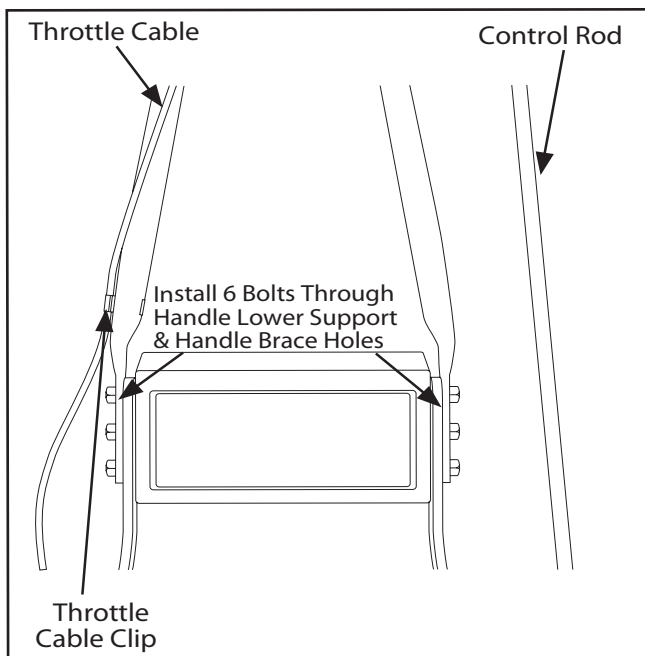

Fig. 1
1. Remove handle brace, nuts, and bolts. Align the handle, lower support, and handle brace holes. Use all six nuts and bolts. Leave bolts loose until Steps 2 and 3 are completed (See Fig. 1).
2. Install control rod into upper and lower pivot holes and secure with cotter pins (See Fig. 1). Oil pivots lightly before installing rod.